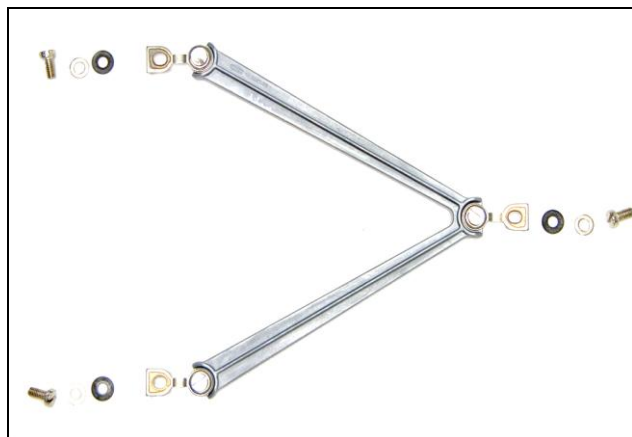

Figure 3-78. Top Flexure Arm Assembly, with Flexure screw heads facing outward.
20. Install the top Flexure Arm, with Flexure screw heads facing *outward*, by inserting the 3 screws, as shown in Figure 3-78.